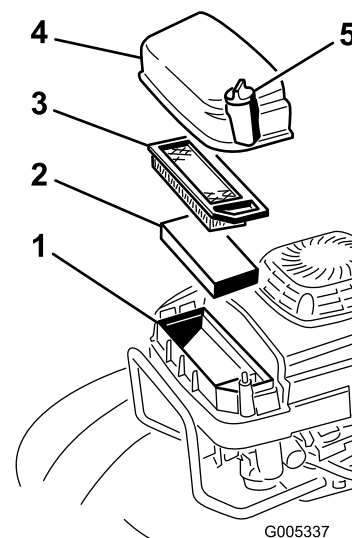

Figure 26
2. Remove the screw that secures the air filter cover (Figure 26).
3. Remove the cover and clean it thoroughly (Figure 26).
4. Remove and inspect the paper air filter (Figure 26), and discard it if it is excessively dirty.